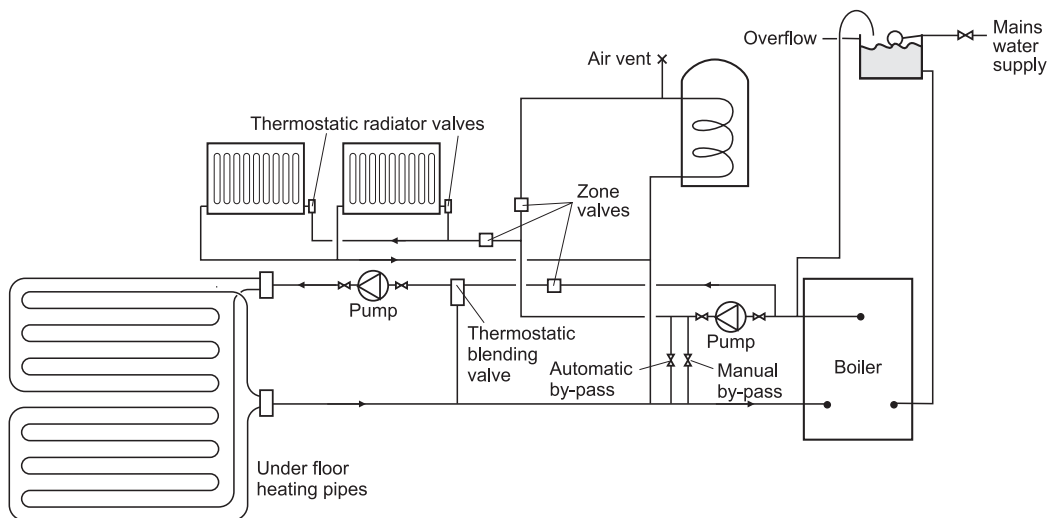

Fig. 11
3.11.4 Underfloor heating system - (See Fig. 11)